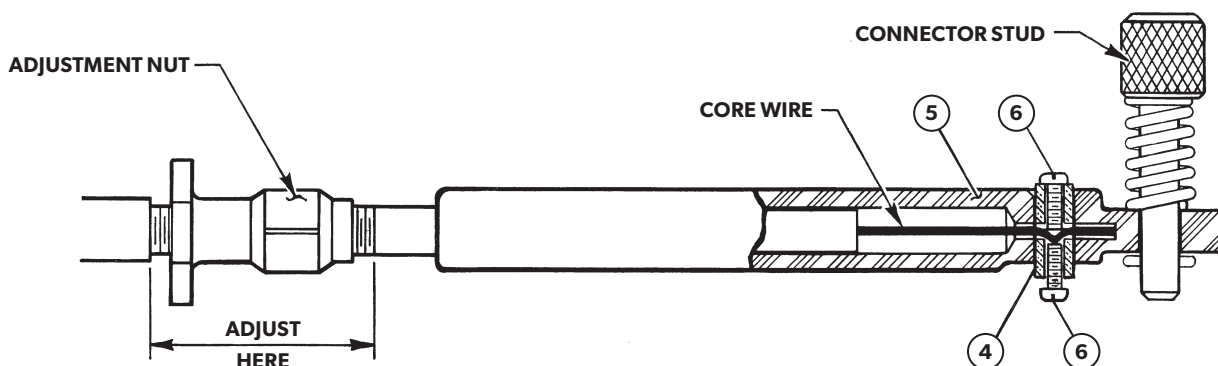

Figure 3.
2. Hold Insert in position and feed core wire through Insert. The core wire must pass fully through the insert and bottom in casing guide (see figure 3).
3. Holding assembly in place, thread one clamp screw (item 6) into clamp insert until it touches core wire, then add one more full turn. This kinks the core wire and helps prevent wire from pulling free. Thread second clamp screw (item 6) into opposite end of insert until it touches core wire, then add one more full turn: do not overtighten screws. Excessive torque may break core wire.
4. Install throttle connection kit (item 7) according to instructions supplied in that kit.
1. Cable travel may be adjusted by rotating cable adjustment nut in the appropriate direction (see figure 3).